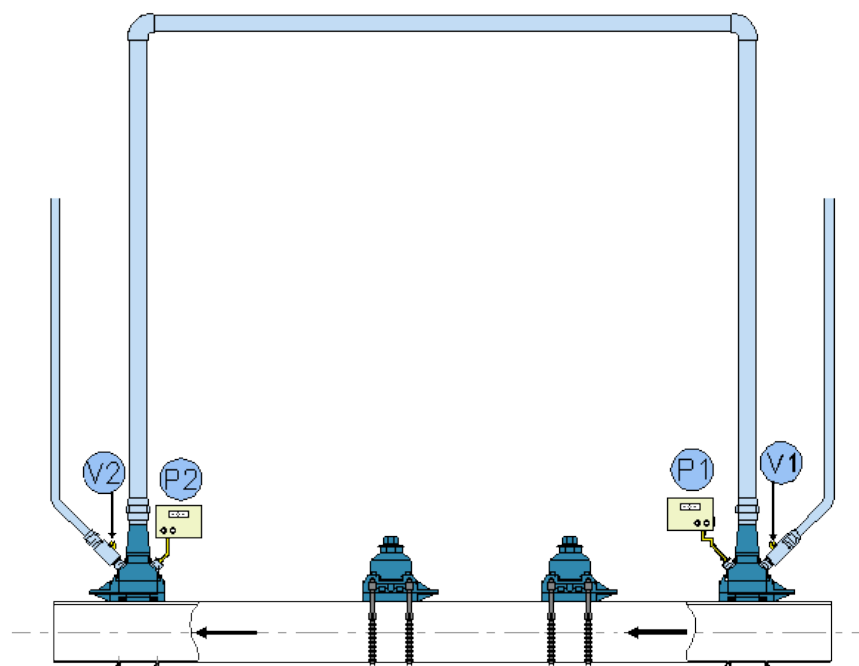

Figure 88- Assembly of Bypass and Bag Stop Equipment
- Reference should be made to Figure 88.